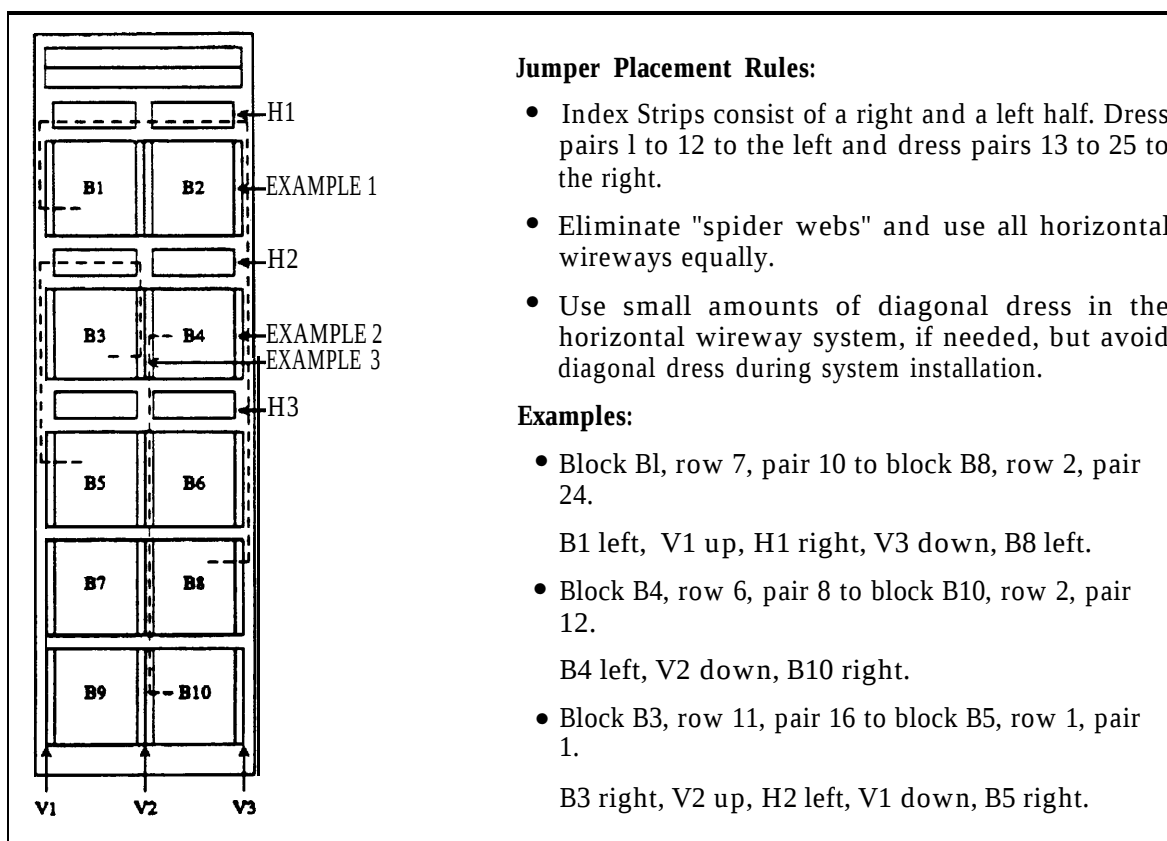

Figure 2-2. Jumper Placement
- Use the layout and instructions shown in figure 2-2, *Jumper Placement*, for the 110A terminal blocks. (Figure 2-2 illustrates a layout for frame mounting, but the layout applies to wall mounting as well.)